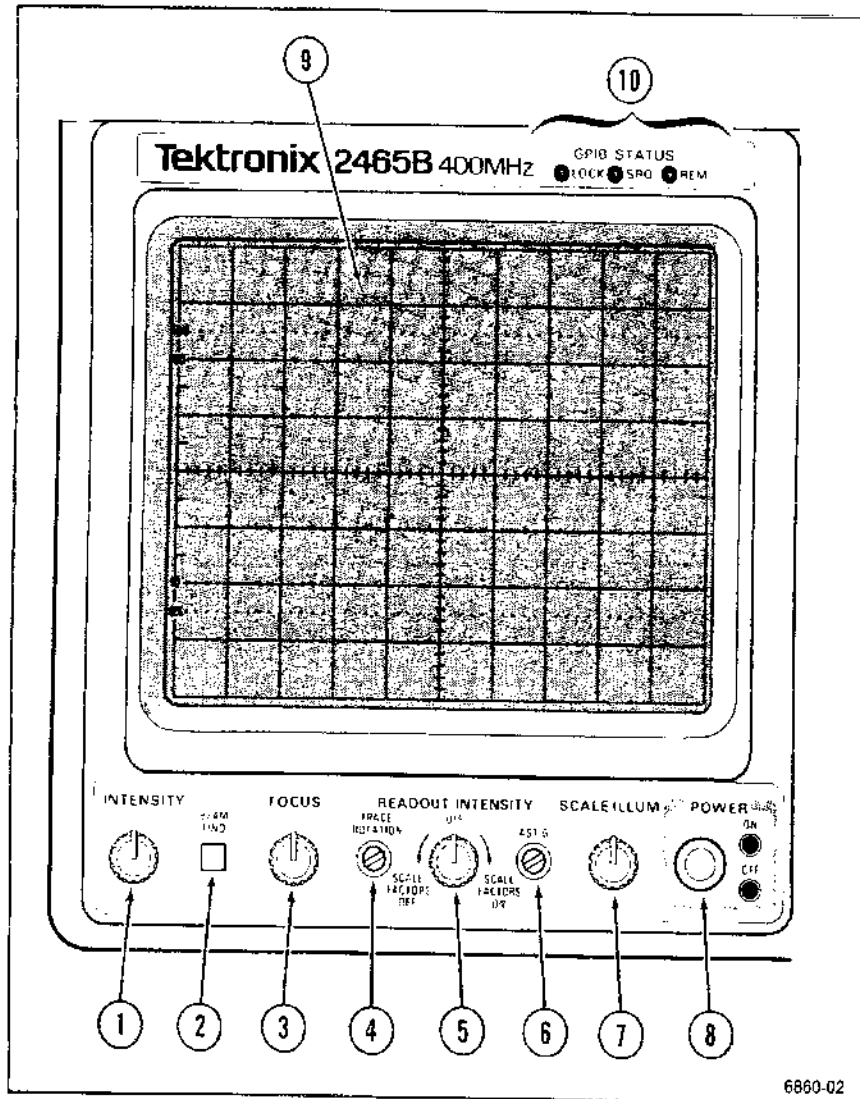

Figure 5-1. Power and display controls.
Refer to Figure 5-1 for the location of items 1 through 10.
- ① **INTENSITY Control** Adjusts the brightness of the waveform.
- ② **BEAM FIND Button** Limits the CRT deflection both vertically and horizontally to within the graticule. Display intensity is not affected by the BEAM FIND button.
- ③ **FOCUS Control** Adjusts the CRT writing beam for optimum display definition.
- ④ **TRACE ROTATION Control** Aligns the no-signal trace with the horizontal graticule lines. Relocating the instrument to a different magnetic ambient may result in slight misalignment of the trace and graticule, indicating a need to readjust the TRACE ROTATION control, using a screwdriver.
- ⑤ **READOUT INTENSITY Control** This control adjusts the intensity of the CRT readout display and will either enable or disable the display of scale factors. Digital measurements, Save/Recall readouts, the "50 Ω OVERLOAD" message, the available Counter/Timer/Trigger (CTT) menu, and the available Television/Video (TV) function indicators are always enabled.